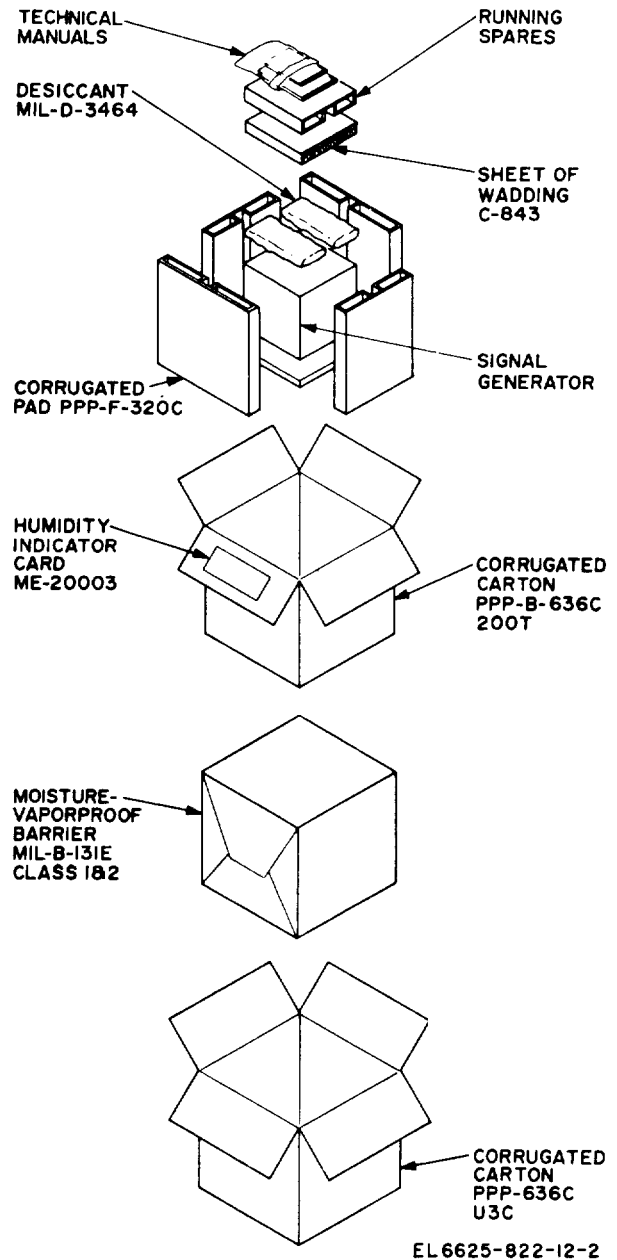

Figure 2-1. Packaging of Signal Generator SG-321B/U.
a. *Packaging Data.* When packed for shipment, Signal Generator SG-321B/U is placed in a carton and packed in a wooden shipping box. A typical shipping box and its contents are shown in figure 2-1.
- (1) Cut and fold back the metal straps.